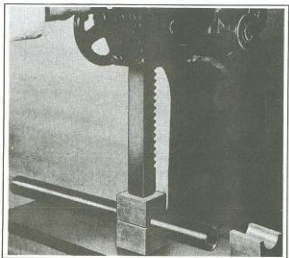

Figure 2-48. Pressing Fork Tube Round
3. Sometimes fork tubes are out-of-round, especially at the point it is clamped in the fork bracket. Place tube in straightening blocks and press until perfectly round as shown in Figure 2-48, checking with dial indicator and micrometer. Finally, check tube by inserting in new fork slider. Work tube up and down. If it does not bind, it is straight.